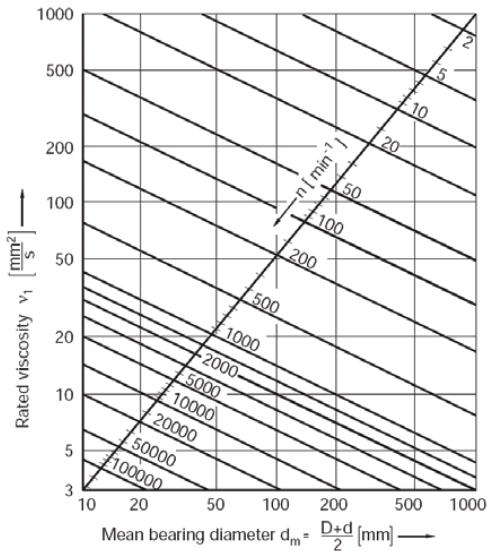

Figure 19 - Rated viscosity table
3. To determine the rated oil viscosity for a bearing, find the mean bearing diameter on the bottom of Figure 19 and draw a line straight up to intersect the corresponding bearing rpm line. Follow the chart to the left to find the rated viscosity for that bearing.
To find the required viscosity of a lubricant, you must first solve for the operating viscosity by using the following equation. Once the operating viscosity has been determined, it can be used in Figure 19 to determine the required viscosity of the lubricant.
4. Now find 16 mm 2/s on the operating viscosity(v) axis in Figure 19 and draw a vertical line until it intersects the operating temperature of 90 °C. Compare this intersection point to the diagonal required viscosity lines. The intersection point falls between the 100 and 150 diagonal required viscosity lines.